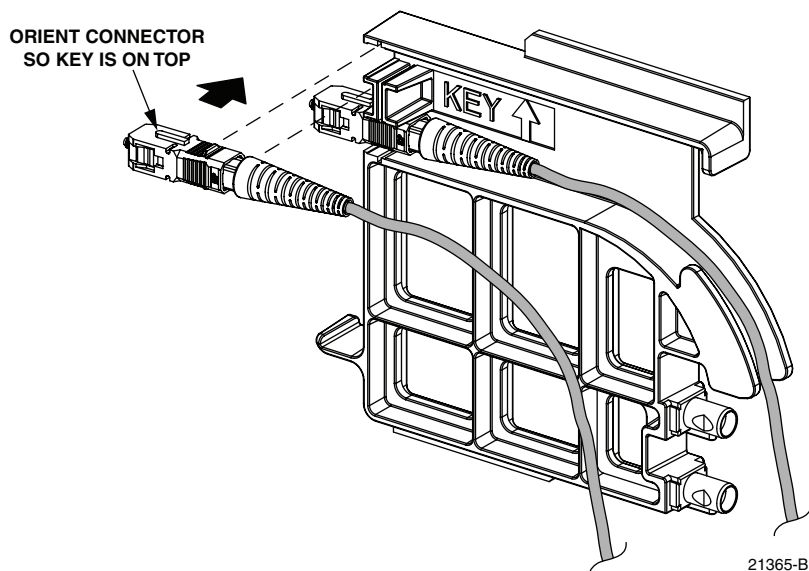

Figure 15. Installing Patch Cord Connector in Dust Cap Assembly
8. Install the patch cord connector in the dust cap assembly as shown in Figure 15.